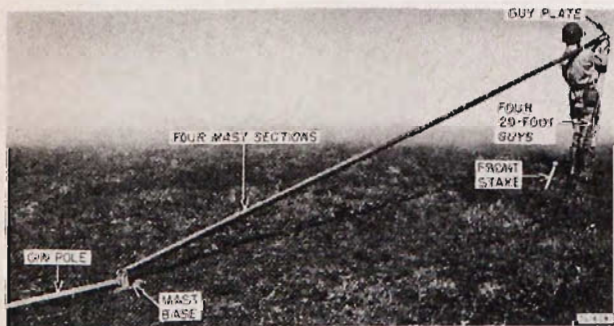
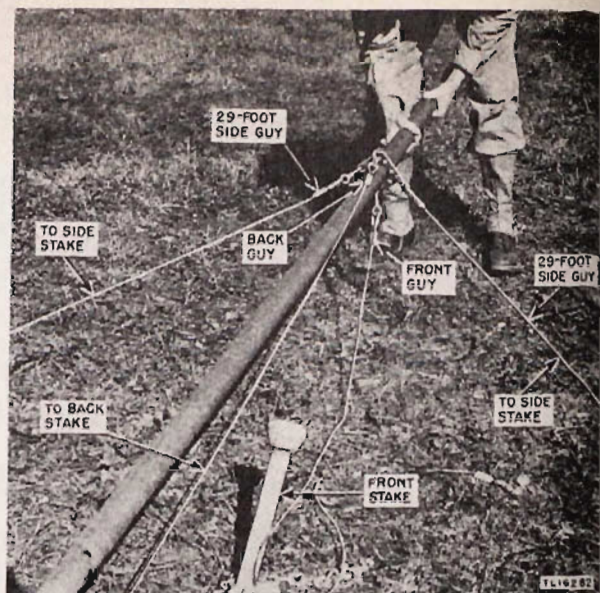

Figure 33. Placing guy plate on mast section.
Figure 34. Guy plate connections.
h. Unwind four 29-foot wire guys simultaneously from the reel and place the guy plate which is attached to these guys over the end of the fourth mast section (fig. 33). Fasten one guy to each of the side ground stakes and fasten the chains around the ground stakes as tightly as possible. Figure 34 shows the respective position of the guy plate and wires.